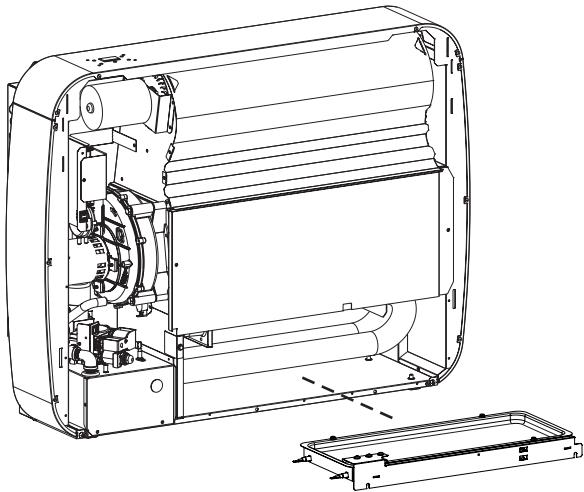

Figure 4
6. Retrieve the heated tray assembly and insert it into the bottom of the wall furnace's heat exchanger compartment. Make sure not to pinch any wires. **See Figure 4.**